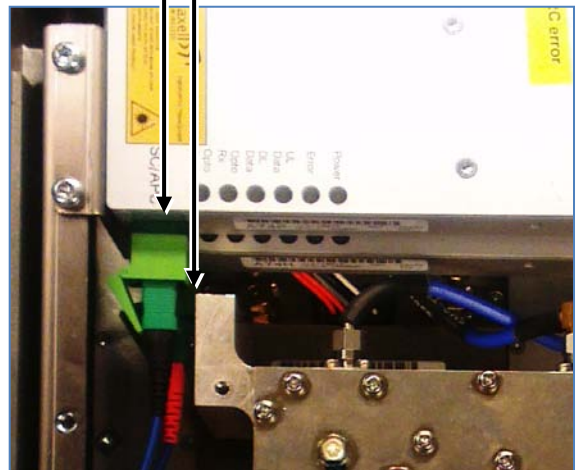

Figure 2-21: MIMO Dual F/O Connection
- For MIMO MBF-40, connect two fibres to the two optic converters installed in the repeater. See Figure 2-21: MIMO Dual F/O Connection.